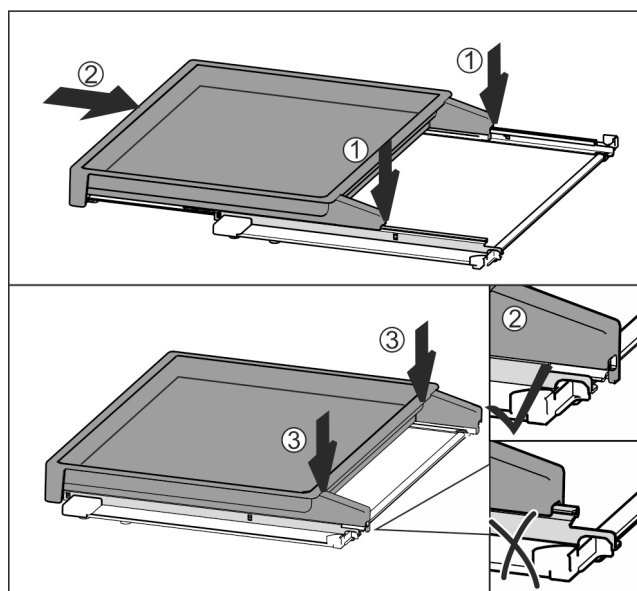

Fig. 97
- Place centrally on the rails Fig. 97 (1).
- Slide the pull-out board all the way in Fig. 97 (2).
- Press down at the back until it clicks into place Fig. 97 (3).